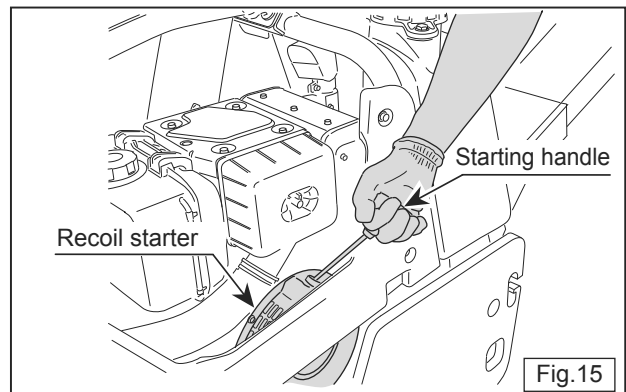

Fig. 15
6. Grab the starting handle for the recoil starter and pull it slowly until you feel some resistance. (Fig. 15)